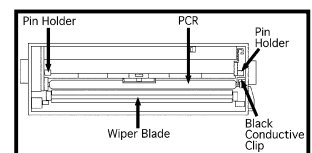

Figure 4
5. Remove pins from pin holder (Fig. 4).
6. Remove, clean and inspect the PCR (Fig 4).